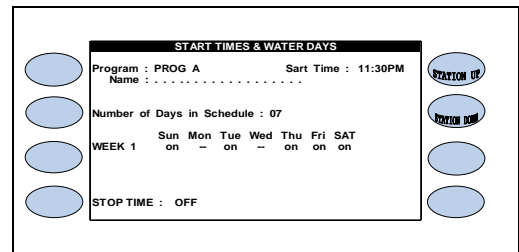

Figure 3.1
The START TIMES & WATER DAYS screen is displayed (Figure 3.1).
5. When at the START TIMES & WATER DAYS screen the two (2) top right Menu keys can be used to scroll to the different programs. The following explains each setting on the START TIMES & WATER DAYS screen.
- **PROG:** Indicates the current program. Program A is being programmed in the example figure 3.1. The ET2000 Controller has seven (7) programs A, B, C, D, E, Drip1, and Drip 2.
- **DAYS IN SCHEDULE:** The ET2000 can be set with a 7-Day schedule (shown in figure 3.1), 14-Day Schedule, 21-Day Schedule or 28-Day Schedule.